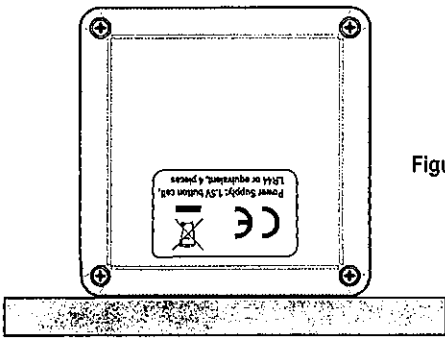

Figure 9
- Wait until the number "3" of the displayed "CA d 3" flashes, then rotate the instrument by 180° along the vertical axis so that the front panel of the instrument faces away from you; the result placement of the instrument is shown in Figure 9. Press the "REL" key once. The display shows "CA d 4".